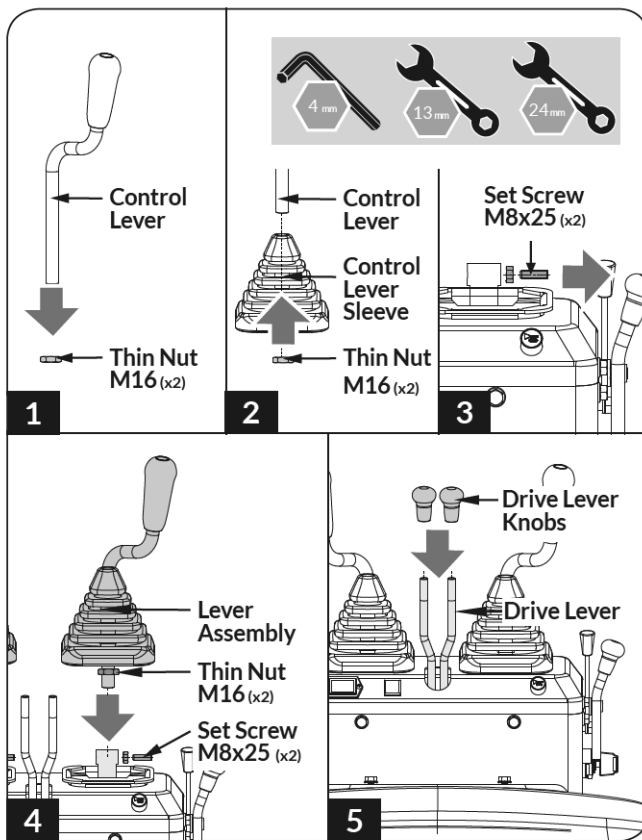

Figure 13
1. Remove the M16 nut from the control lever, slide the control lever sleeve onto the lever, and then reinstall and secure the M16 nut. (See **Figure 13, illustration 1 & illustration 2**)
2. Loosen the M8x25 set screw and the nut on the side of the fixing hole. (See **Figure 13, illustration 3**)
3. Distinguish the left and right control levers using the "L" and "R" labels on the handle, slide the lever assembly into the corresponding fixing hole on the control cabinet, and rotate to tighten. (See **Figure 13, illustration 4**)
4. Use a wrench to tighten the M16 nut and the M8x25 set screw and nut, ensuring the control lever is securely fixed, and adjust the sleeve position. (See **Figure 13, illustration 4**)
6. Screw the drive lever knobs onto the drive levers. (See **Figure 13, illustration 5**)